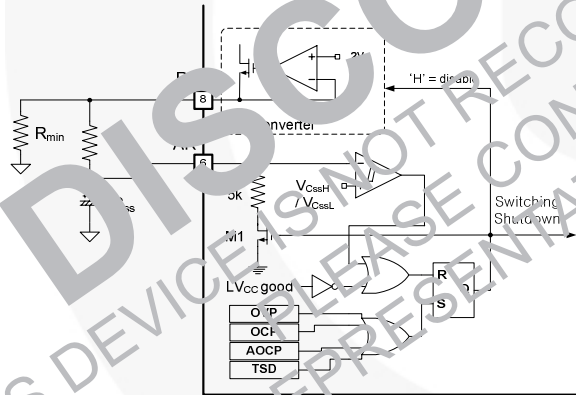
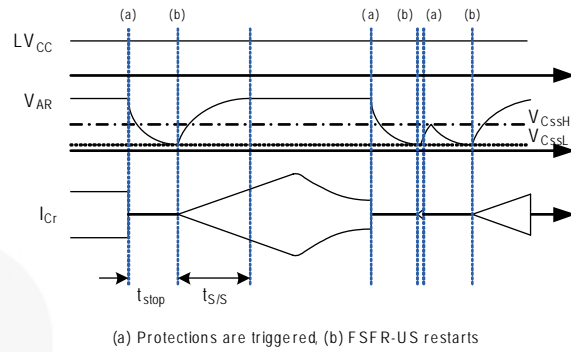

Figure 20. Internal Block of AR Pin
Figure 21. Self Auto-Restart Operation
4. Self Auto-restart: The FAN7621S can restart automatically even if a built-in protection is triggered with external supply voltage. As shown in Figure 20 and Figure 21; once any protections are triggered, M1 switch turns on and V-I converter is disabled. C_{SS} starts to be discharged until the $V_{C_{SS}}$ across C_{SS} drops to $V_{C_{SSL}}$. Then all protections are reset, M1 turns off, and V-I converter resumes. The FAN7621S starts switching again with soft start. If the protections occur while $V_{C_{SS}}$ is under $V_{C_{SSL}}$ and $V_{C_{SSH}}$ level, the switching is terminated immediately, $V_{C_{SS}}$ continues to increase until reaching $V_{C_{SSH}}$ then C_{SS} is discharged by M1.
5. Protection Circuits: The FAN7621S has several self-protective functions, such as Over-Current Protection (OCP), Abnormal Over-Current Protection (AOC), Over-Voltage Protection (OVP), and Thermal Shutdown (TSD). These protections are auto-restart mode protections, as shown in Figure 21.